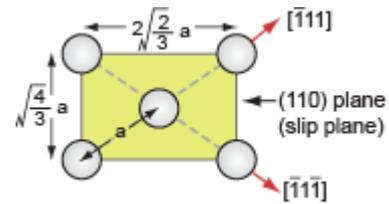

Figure C44.
**E31.** The slip plane and direction are shown in Figure C44.